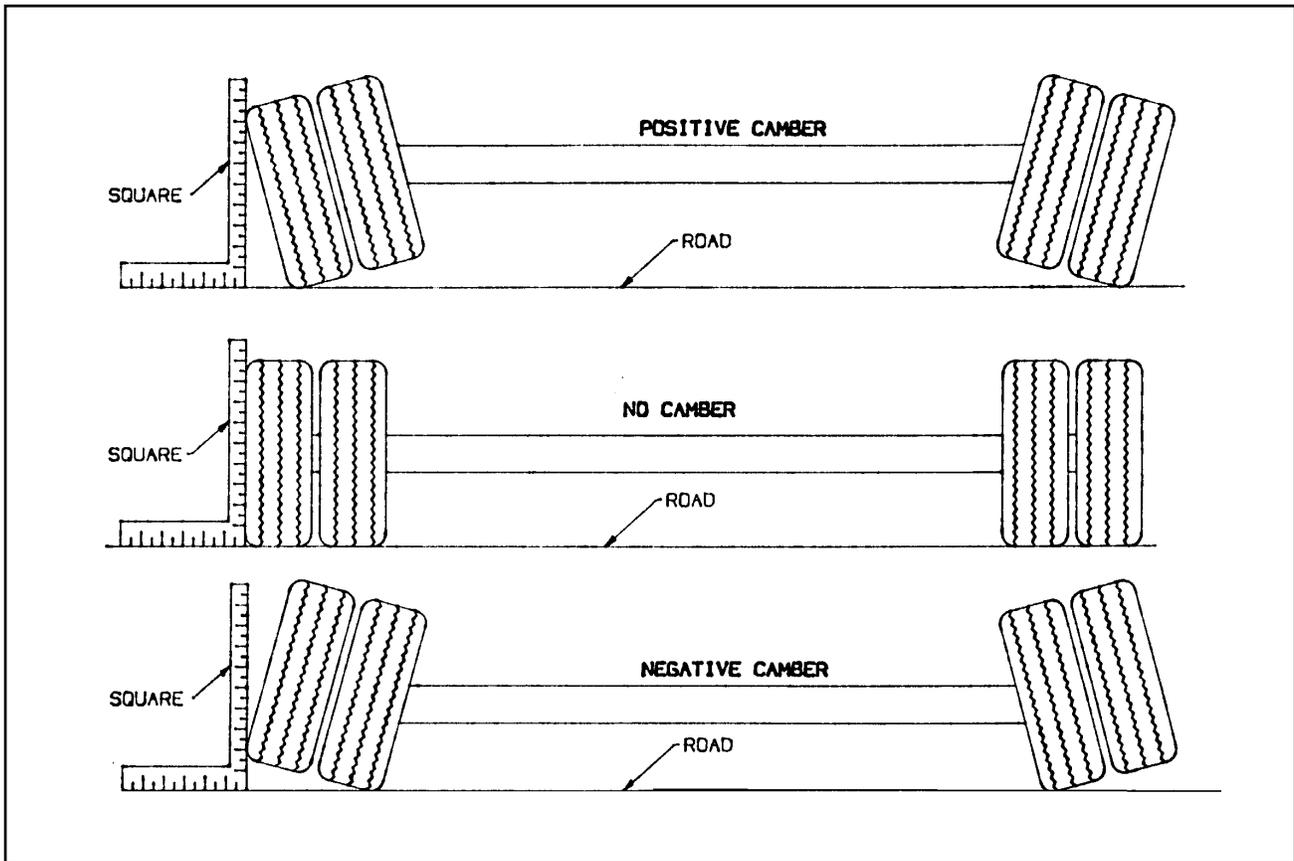

Figure 4-7 Examples of Camber
- d. Follow the same procedures as in Section 4-7.1 b. and c., except place the axle gauge above and below the axle. If gauge point gap is found, the axle has positive or negative camber. The trailer axle has no camber from the factory. If it is found to have positive or negative camber, axle replacement is necessary (See Figure 4-7 for examples of camber).